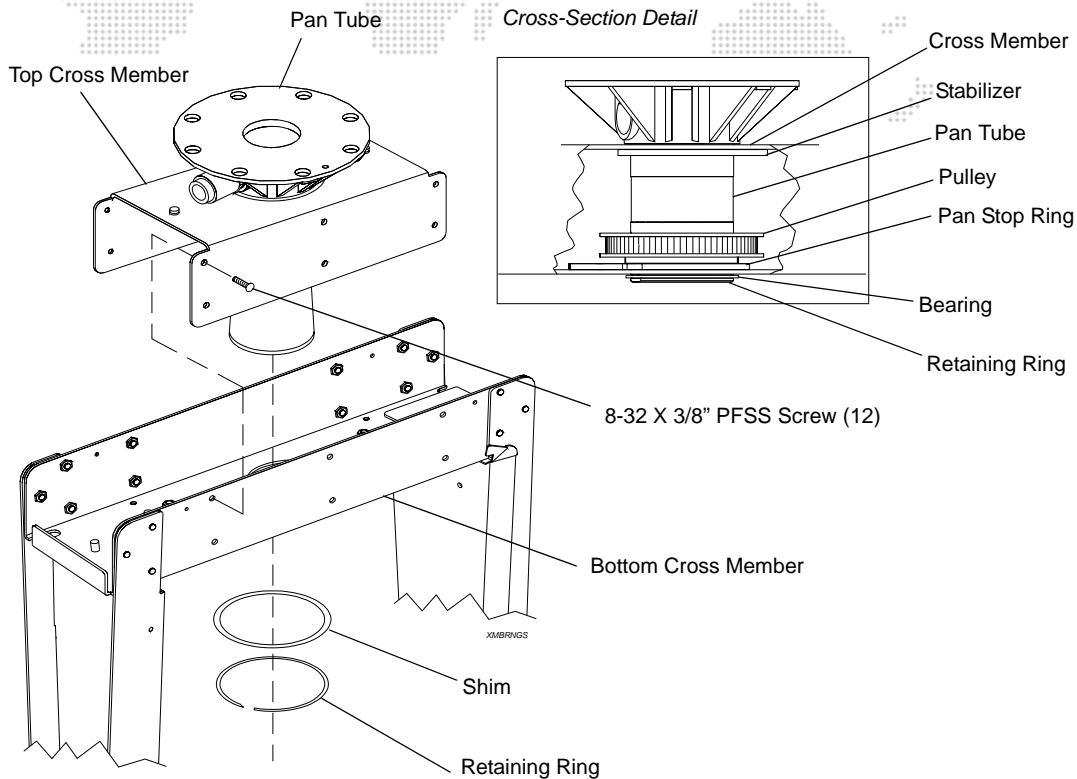

Figure 2-30: Removing Top Cross Member and Pan Tube
Step 9. At cross member, using #2 Phillips screwdriver, remove twelve 8-32 X 3/8" PFSS screws securing top cross member to bottom cross member. **Figure 2-30.**